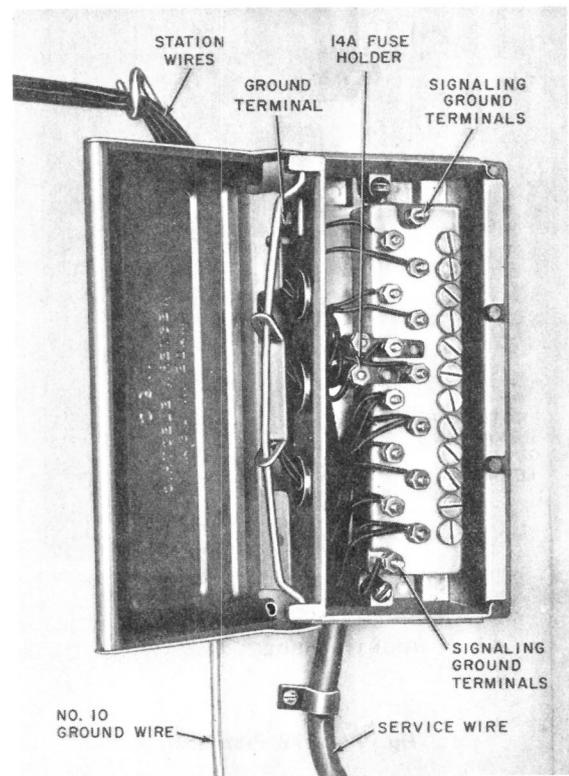

Fig. 8—116C Protector
**3.08** The 116C protector (Fig. 8) consists of a nonconductive base containing twelve binding posts, twelve 2A1A protector units, and two binding posts for signaling ground connections. The base is housed in a metal container with a hinged metal cover. The metal housing is equipped with a clamp for the station ground wire. The wire used to ground the 116C protector should be no smaller than a No. 10 (see Table B). The 116C protector is designed for outdoor or indoor use and is generally used with 6-pair multiple drop wire.